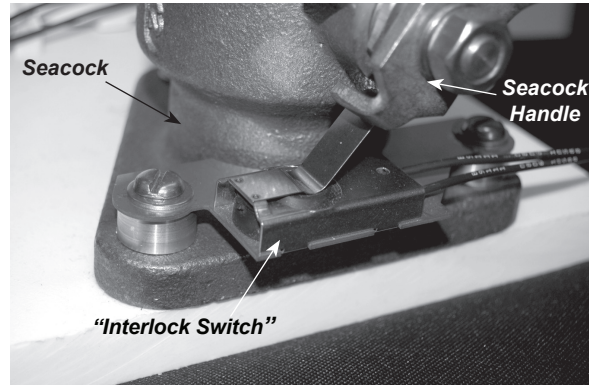

Figure J21: "Interlock Switch" Attached to Seacock
1. The seacock (discharge valve) is located in the engine compartment labeled HEAD DISCHARGE. To open, turn the valve so that the handle is parallel to the flow of the valve. **Note:** The seacock may be fitted with a device called an "Interlock Switch" which prevents the overboard discharge switch from activating the discharge pump should the seacock be in the CLOSED position. See Figure J21. Should the pump not activate please check to see that the seacock is in the OPEN position. Additionally, the waste deck plate cover must be tightened securely for the overboard discharge system to operate properly.